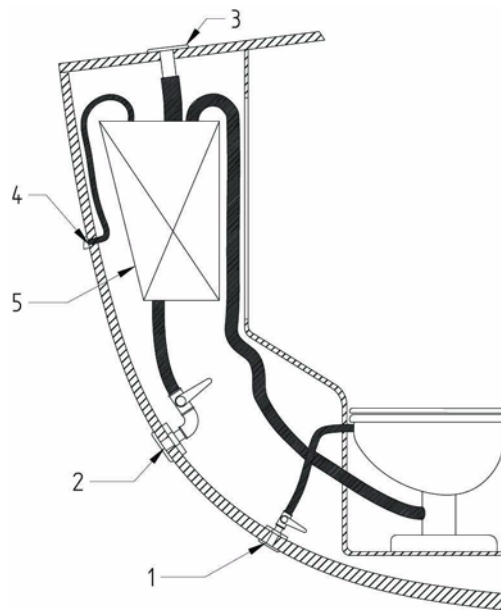
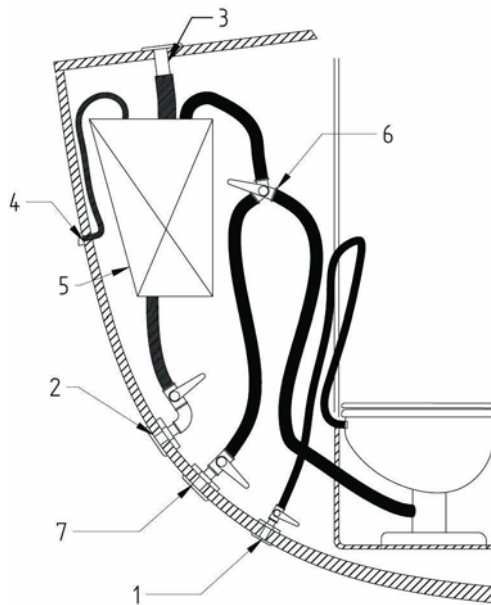

Fig. 1
Fig. 2
There are two different types of WHT: The simple tanks (Fig. 1) and the tanks equipped with 3 way valves (Fig. 2).
- Fig. 1: Open the draining valve (ref. 2).
- Fig. 2: Close the access to the tank with the 3 way valve (ref. 6). Open the draining valve (ref. 7).
- Fig. 1: Make sure the draining valve is closed (ref. 2) (valve handle perpendicular to the pipe).
- Fig. 2: Make sure the draining valves are closed (ref. 2, 7) (valve handle perpendicular to the pipe).